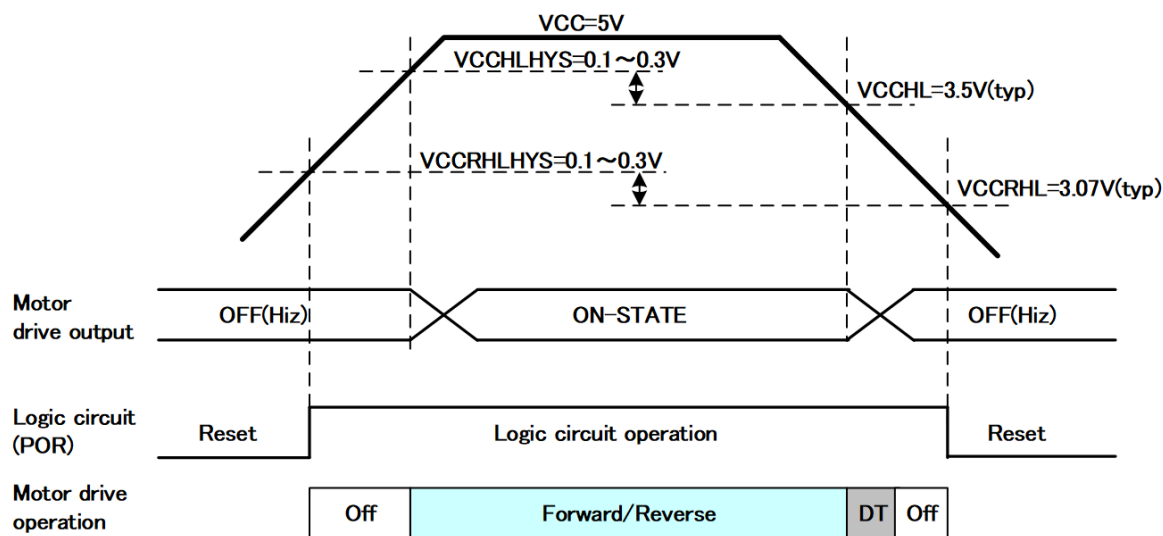
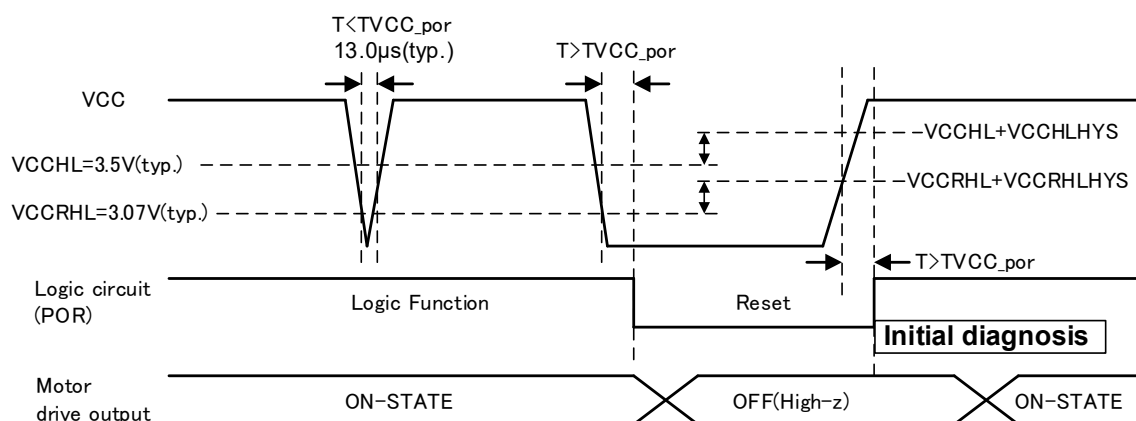

Figure 7.37 VCC under-voltage detection and POR threshold characteristics
Figure 7.39 VCC under-voltage POR detection timing chart 1
7.13.2. VCC under-voltage detection circuit (see Figure 7.37 to Figure 7.39)